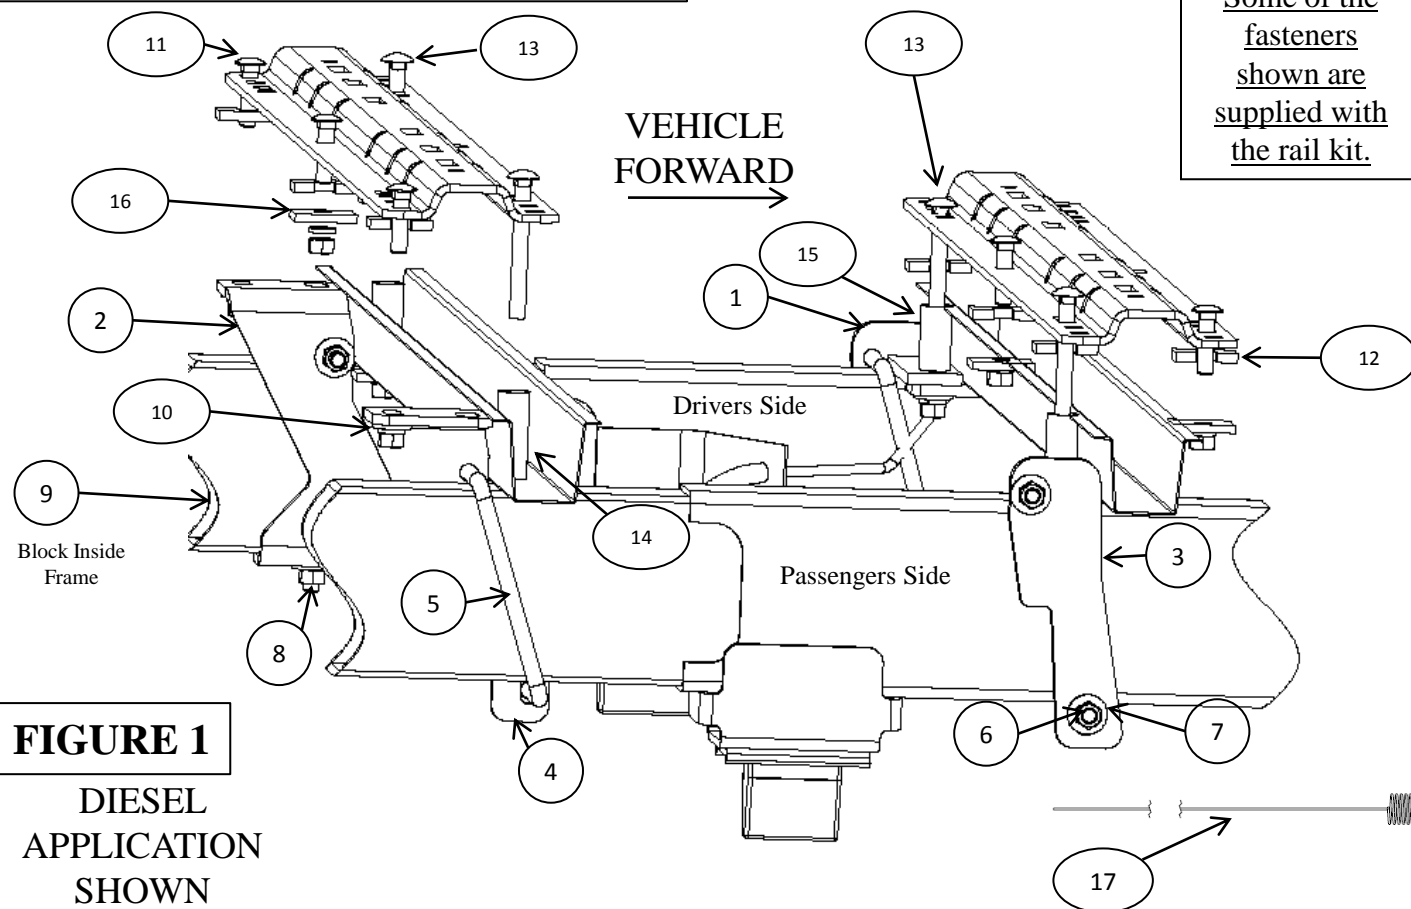

FIGURE 1
5. Temporarily position the rear frame brackets (2) and (4) on the inside of the frame as shown in Figure 1 and 2 and check that the 1/8in. drilled holes align with the slots of the frame bracket. Remove the frame bracket from the vehicle if the holes align. If not, adjust the 1/8 in. holes so that they do align.
- a) Place the rear brackets (2) (4) on the inside of the frame as shown in Figures 1 and 2.
- b) Install a u-bolt (5) on each of the brackets. The u-bolt wraps around the outside of the frame, right behind the rear bed support. Loosely install 1/2 in. conical washers (7) and hex nuts (6) onto the ends of the u-bolts. **NOTE: The exhaust might need to be temporarily lowered to gain access to the bottom u-bolt end on the passenger side rear frame bracket, depending on the vehicle.**
- c) For the drivers side rear only, feed a 1-3/4 in. carriage bolt (8) and 1 in. x 3 in. block (9) into position in the slot on underside of frame using a pull wire. There is a round hole in the inside of the frame that can be used to feed the hardware. Loosely fasten the carriage bolt (8) with 1/2 in. conical washer (7), lock washer (10) and hex nut (6).
9. Install the 1/2 in. x 2 in. long carriage bolts (11) through rear rail, u-shaped spacers (12) (above or below bed depending on corrugation), and rear holes of the rear brackets (2) (4). **NOTE: The u-spacers may need to be installed beneath the bed and above the frame bracket if you are drilling into the raised area of the bed corrugation.**
10. Install the 1/2 in. x 4-1/2 in. long carriage bolts (13) down through front holes in rear rail, tube spacers (14), and in the front holes of the rear bed support. Install the 1-1/2 in. x 2 in. block (16) with lock washers (10) and nuts (6) on the bolts (13). Snug nuts up by hand.